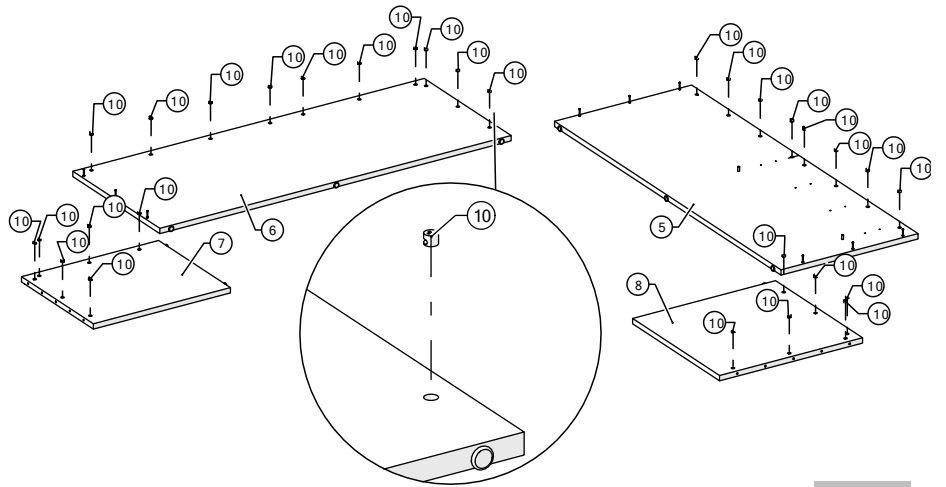

Figure 5
5. Place Cams into the holes of the modesty front, modesty return, gable LH, and gable RH; make sure that the arrow on the face of the connector points toward the laminate board (Figure 5).